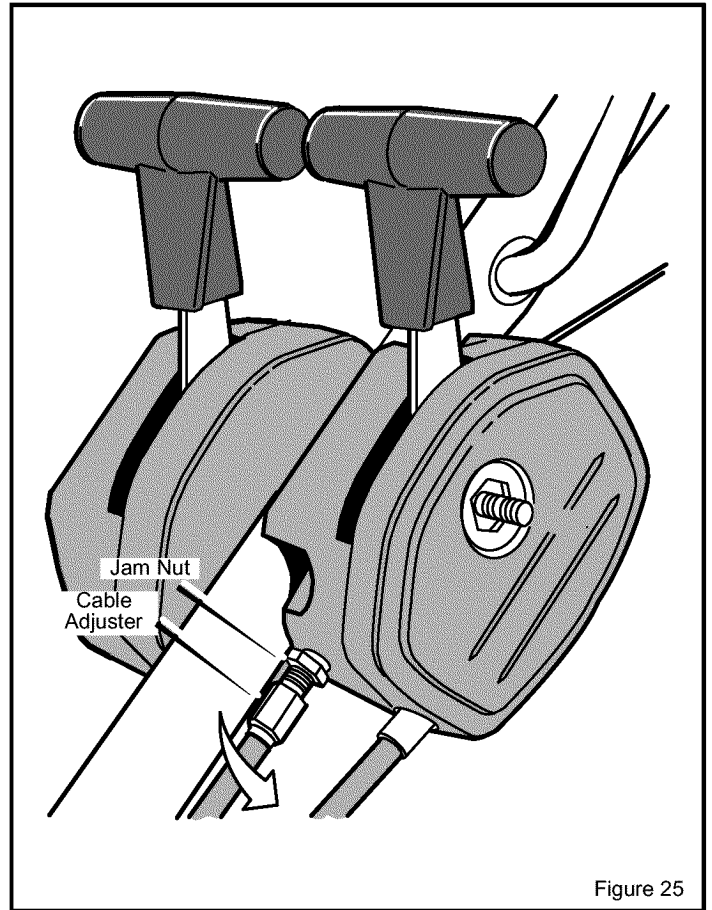

Figure 25
1. If the drive system is slipping, loosen the **jam nut** (see Figure 25).